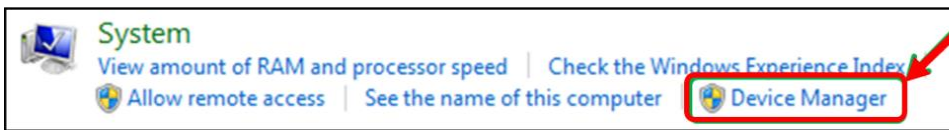

Fig. 16 System window.
- Navigate through **System and security, System to Device manager** (Fig. 16)